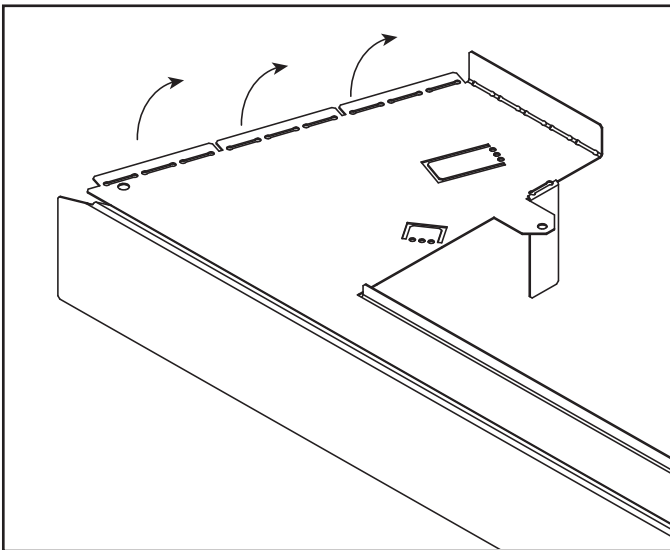

Figure 3. Bend Base Pan Tabs Up 90 Degrees (Both Sides)
- Locate the existing base pan, which was removed in Step 1, and bend the hand bend features “up” as shown in Figure 3.